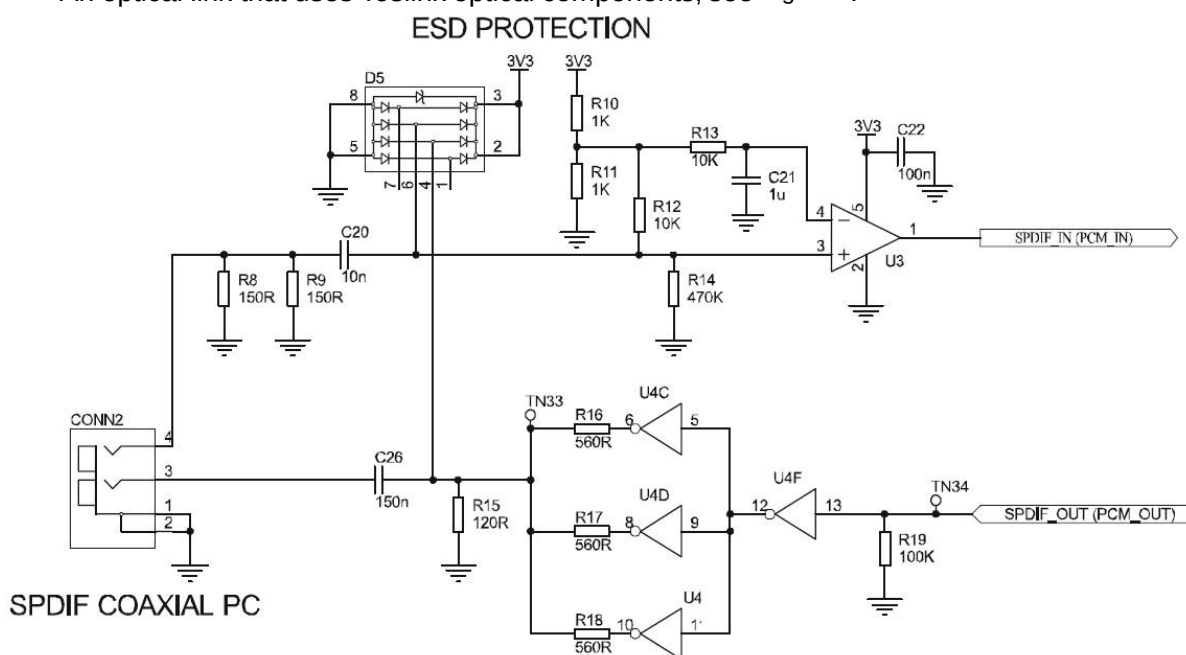

Figure 6: Example Circuit for SPDIF Interface (Co-Axial)
- A 75Ω coaxial cable with an RCA connector, see Figure 6.
The output stage digital circuitry converts the signal from 16-bit per sample, linear PCM of variable sampling frequency to a 2Mbits/s 5-bit multi-bit bit stream, which is fed into the analogue output circuitry. The output stage circuit is comprised a DAC with gain setting and class AB amplifier. The output is available as a differential signal between SPKR_A_N and SPKR_L_P for the right channel, as Figure 6 shows, and between SPKL_B_N and SPKL_B_P for the left channel.